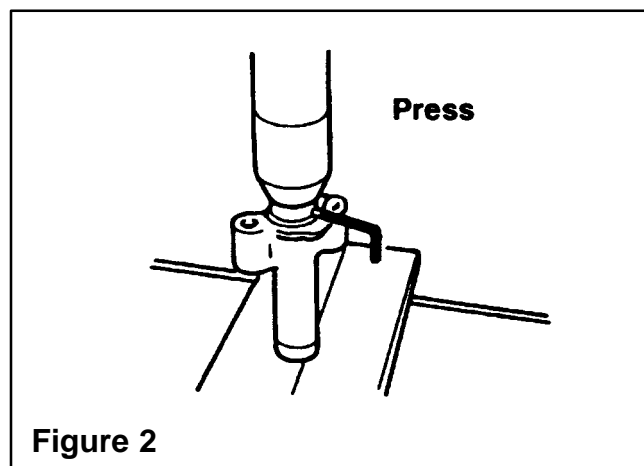

Figure 2
- b) Using a press or a vise, slowly compress the push rod in the tensioner's housing over a period of approximately 30 seconds or greater. (See Figure 2)